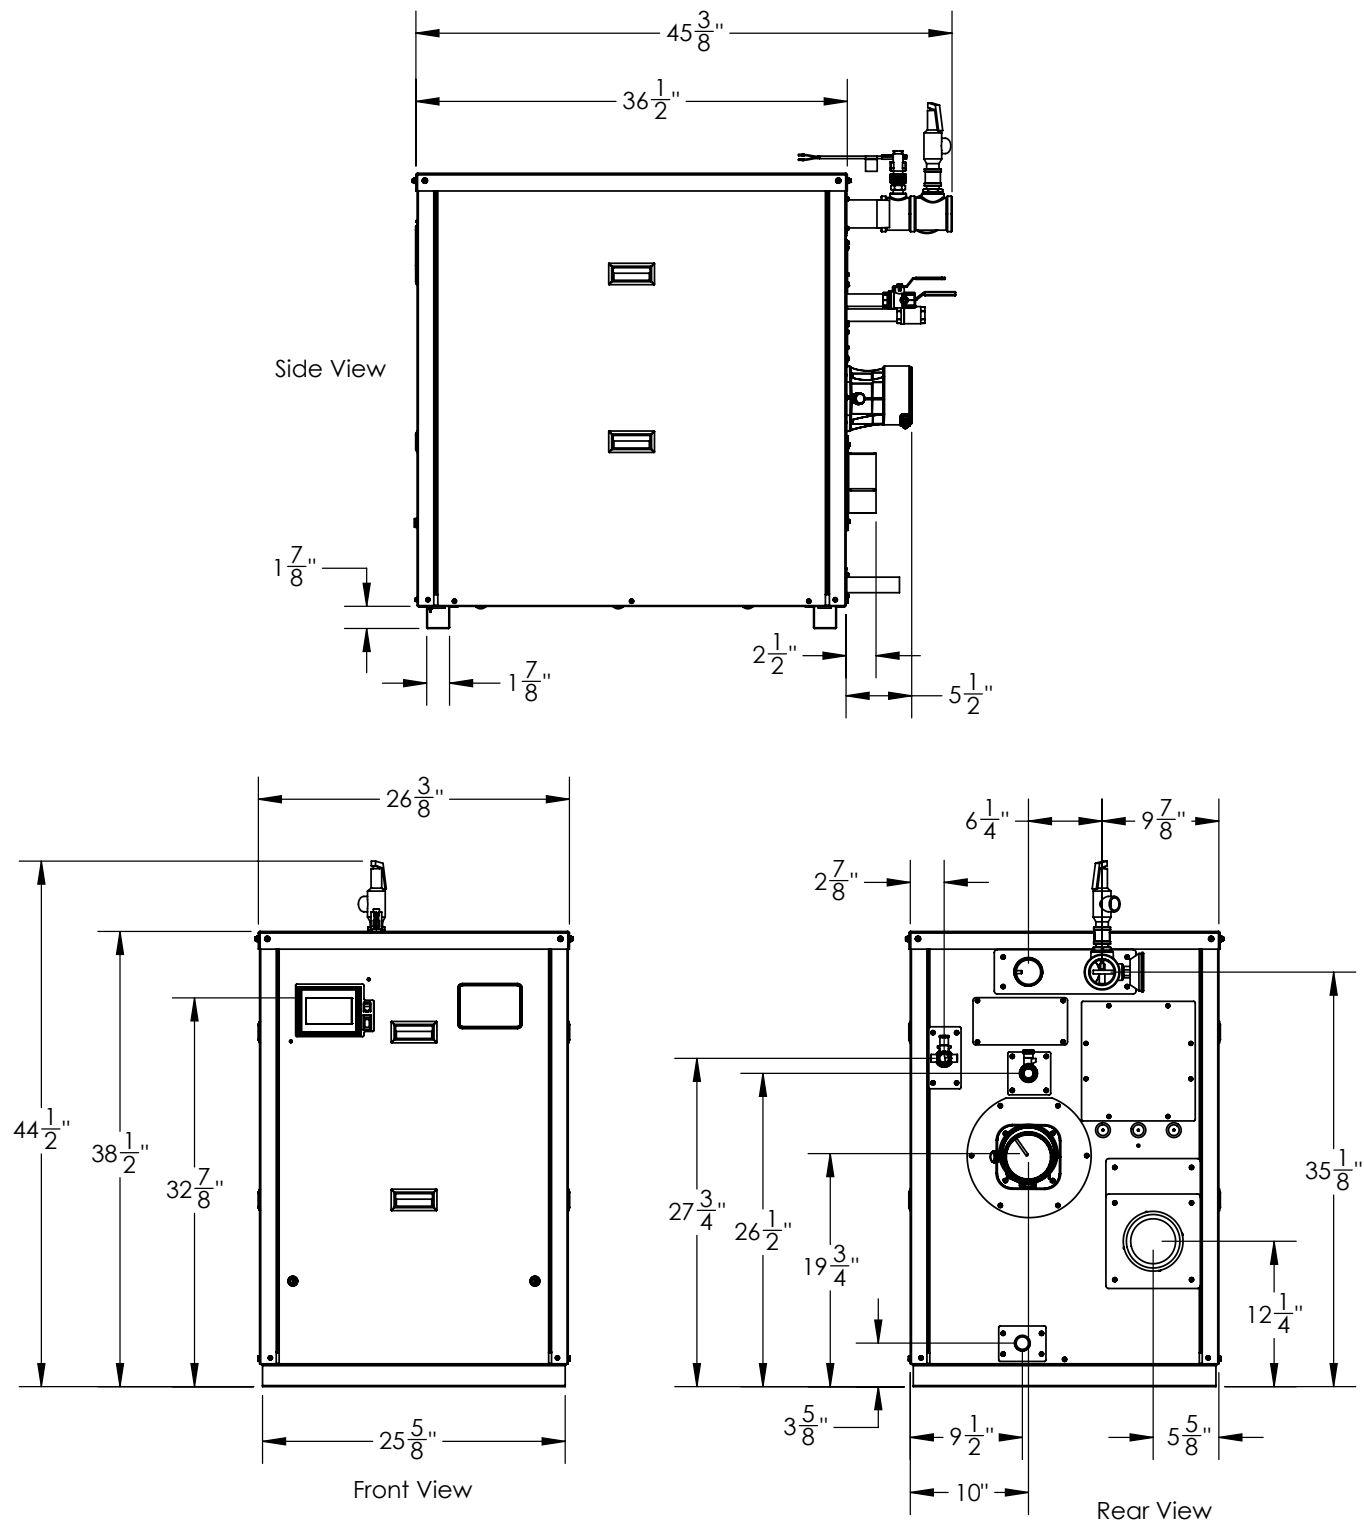
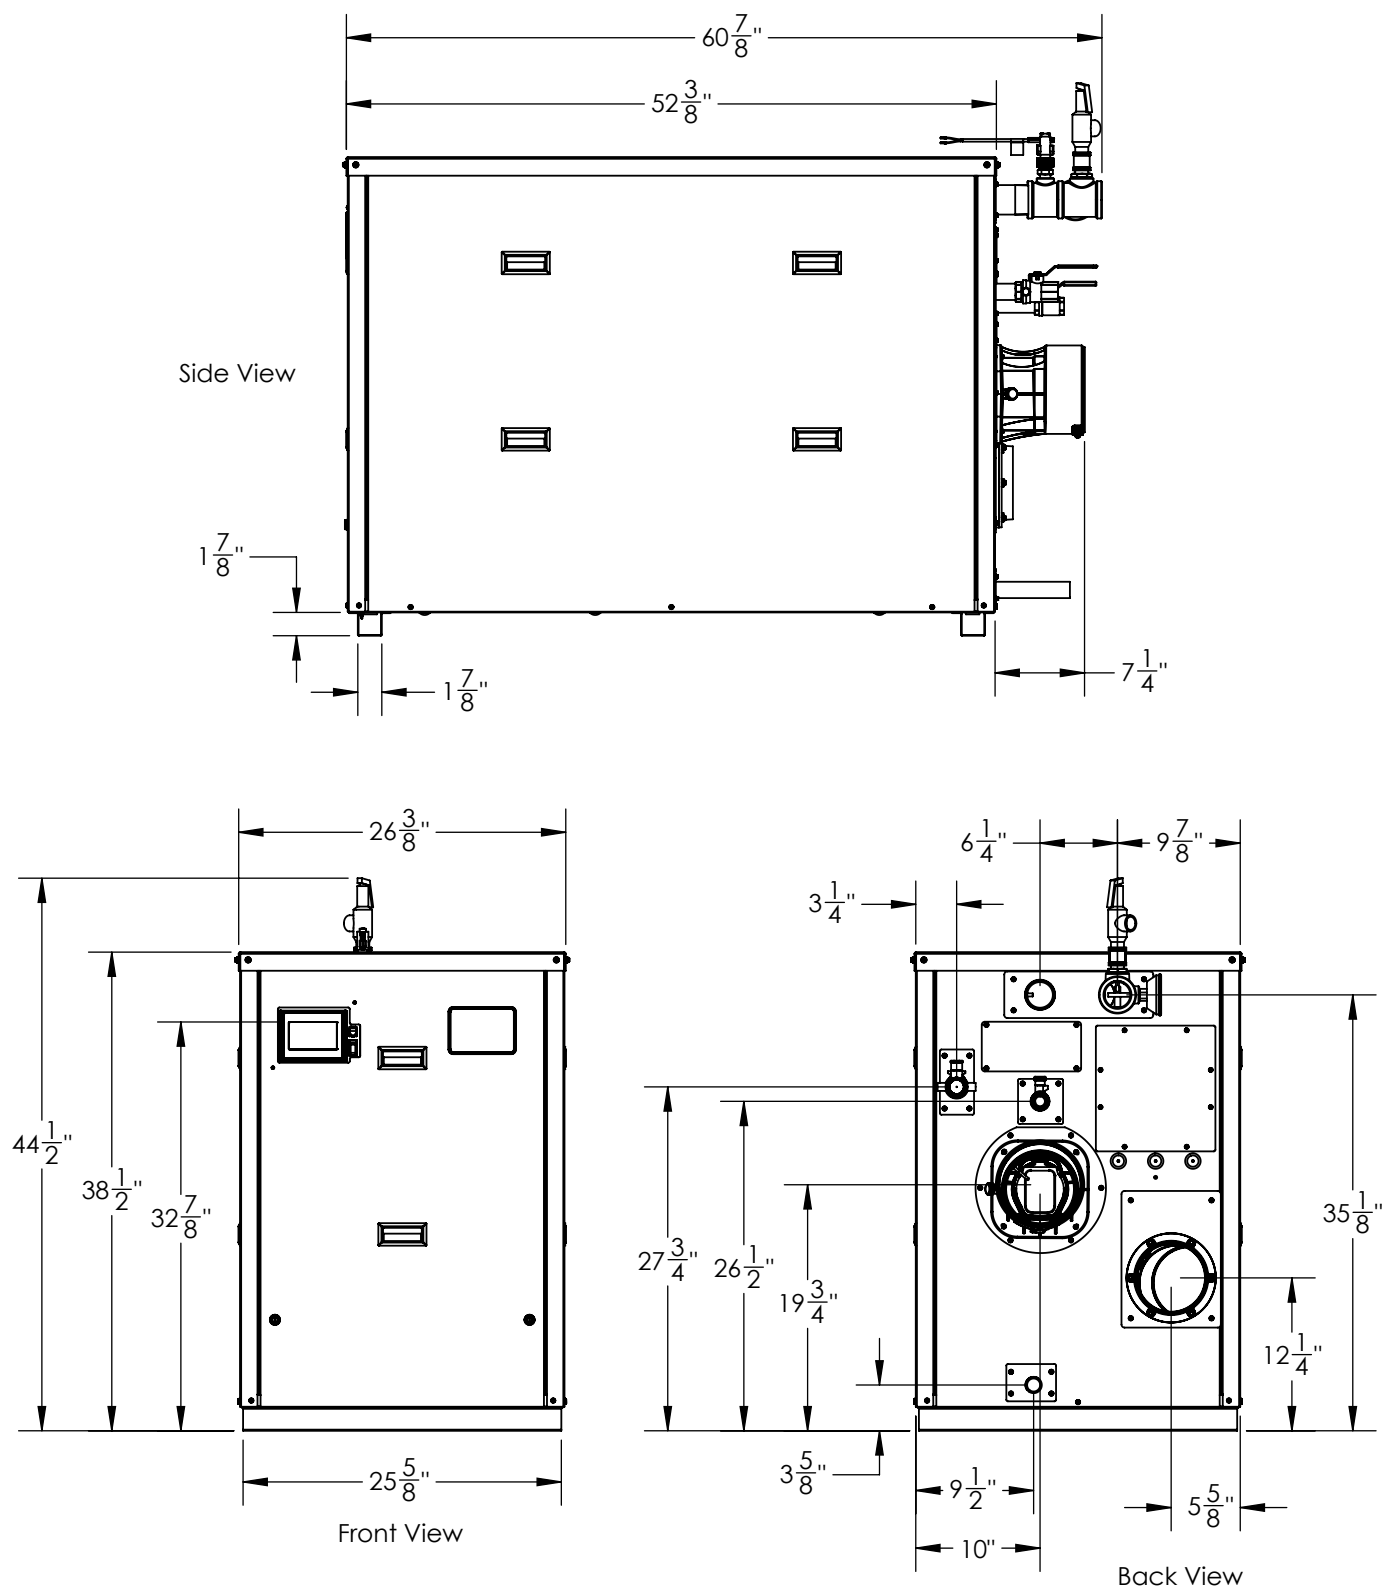

Figure 1: 400-500 Dimensions
Figure 2: 650-1000 Dimensions
6. Ensure the included polypropylene vent adapter is installed in the proper orientation. The clamp screw faces down, and the test port faces right (Gas train side). See Figure 1 and Figure 2.